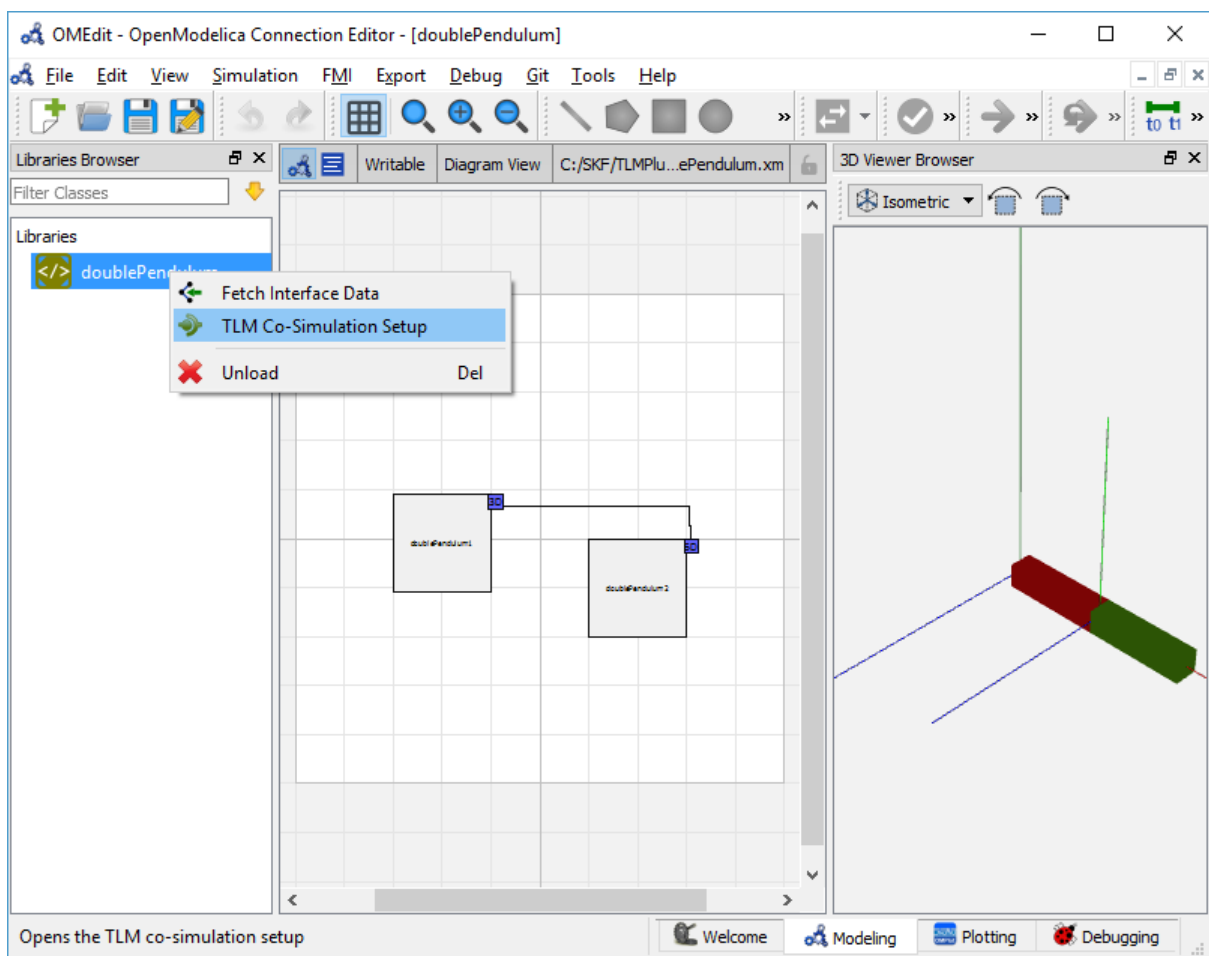

Figure 9.2: Co-simulating and Fetching Interface Data of a composite model from the Pop-up Menu .
- Right click the composite model in the **Libraries Browser** and choose **TLM Co-Simulation setup** from the popup menu (see Figure 9.2)
- Right click the composite model in the **Library Browser** and choose **Fetch Interface Data** from the popup menu (see Figure 9.2).